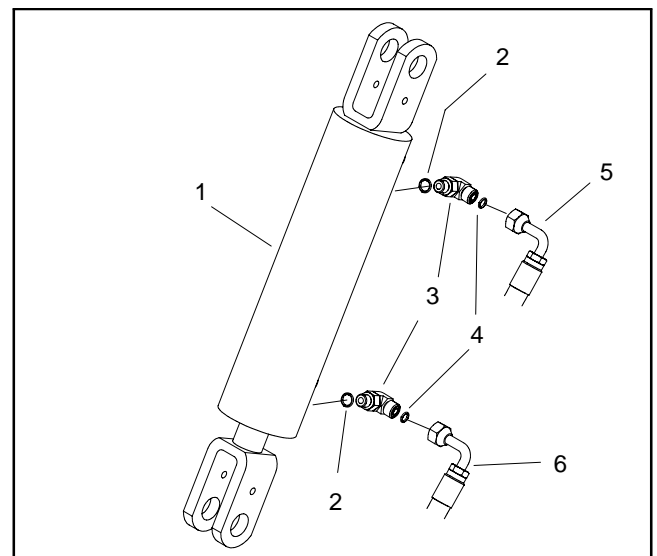

Figure 20
6. Disconnect hydraulic hoses from hydraulic fittings on lift cylinder (Fig. 20). Locate and discard O-ring from between hoses and fittings. Allow hoses to drain into a suitable container.
8. Remove shoulder bolts (item 8) that are used to retain lift cylinder pivot pins (item 6) to machine frame.
11. If needed, remove fittings and O-rings from the lift cylinder (Fig. 20). Discard O-rings.
12. Inspect bushing in axle and frame (item 13) for wear or damage. Replace bushing if necessary. If bushing replacement is necessary, position bushing as follows: